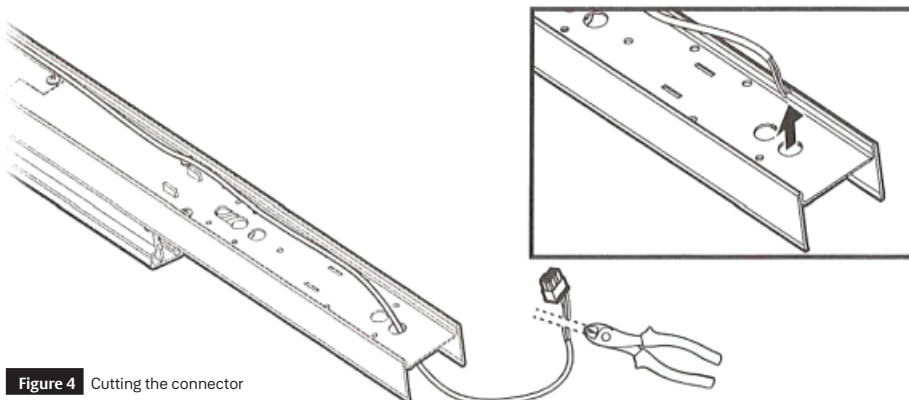

Figure 4 Cutting the connector
- Cut the connector off of the end of the switch wire and fit the wire through the grommet in the carrier so the latch assembly can be removed. See Figure 4.